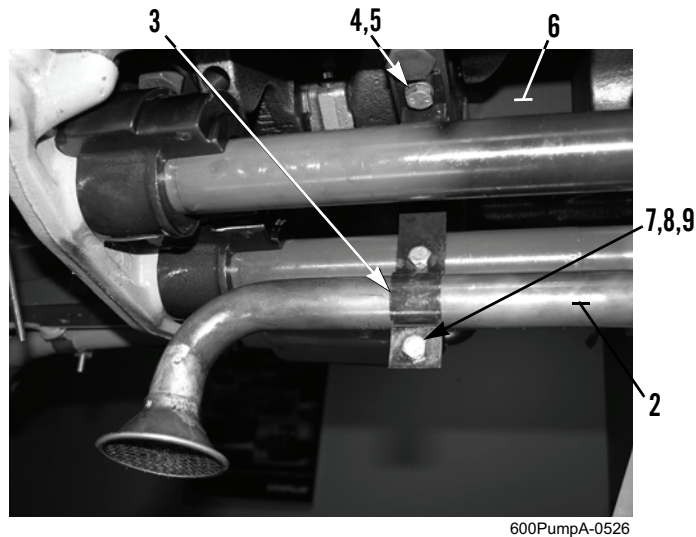

Figure 9. Oil Suction Line.
9. Secure oil suction line (Figure 9, Item 2) inside clamp (Figure 9, Item 3) and loosely install two capscrews (Figure 9, Item 9), new lockwashers (Figure 9, Item 8), and nuts (Figure 9, Item 7).
10. Secure clamp (Figure 9, Item 3) to engine block (Figure 9, Item 6) with new lockwasher (Figure 9, Item 5) and capscrew (Figure 9, Item 4).
11. Tighten two nuts (Figure 9, Item 7).